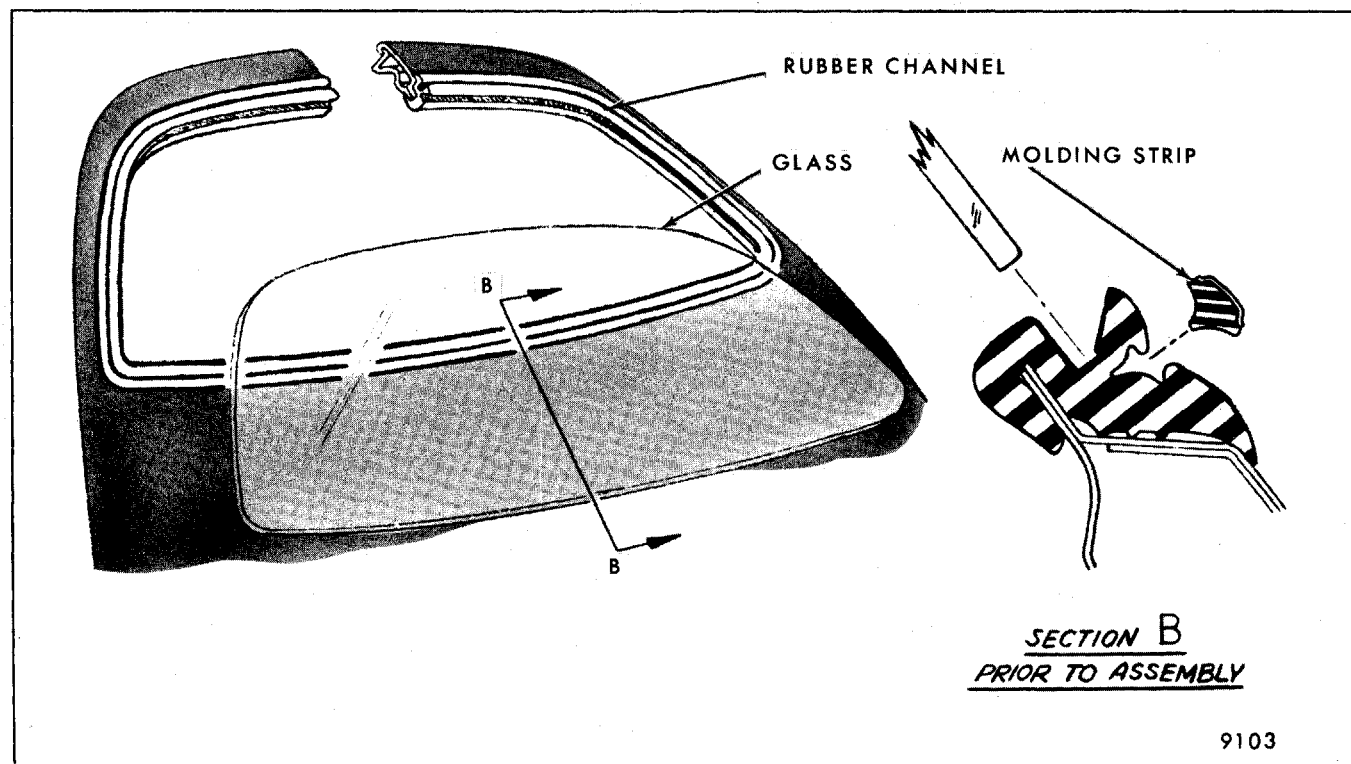

Fig. 11-17-Stationary Tailgate Window Assembly
2. Position glass in rubber channel bottom horizontal cavity (Fig. 11-17).